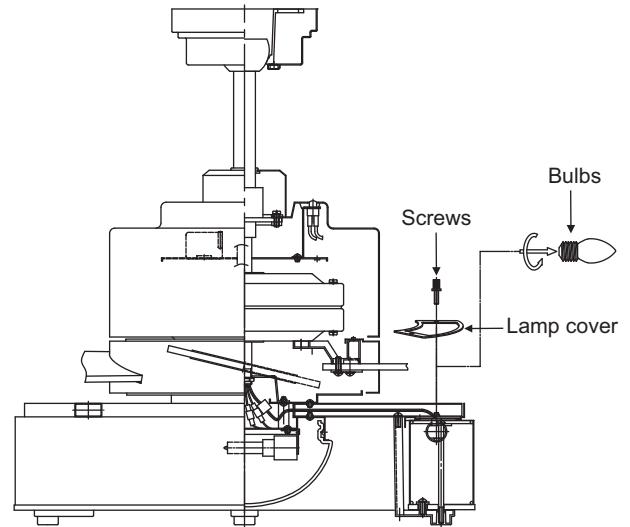

Figure 20
1. Remove the 2 screws from the light kit and take off the lamp cover as shown in Figure 20.